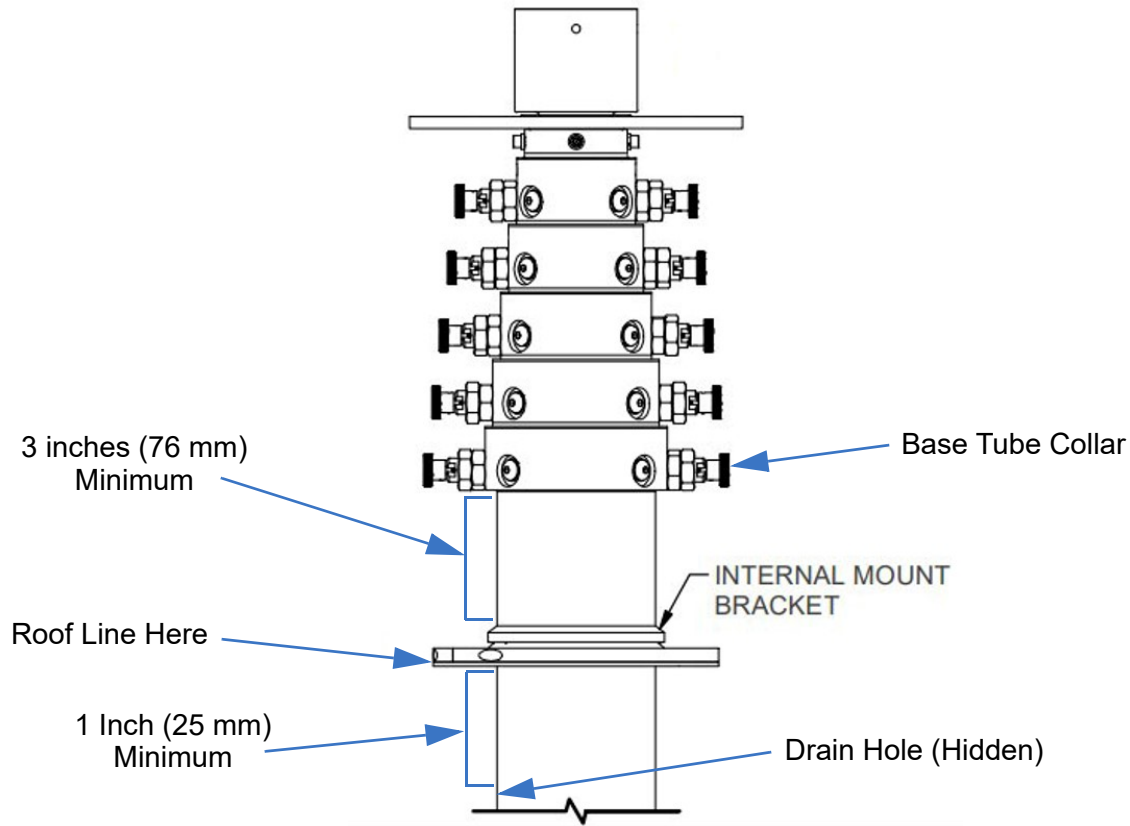

Figure 4-3 Roof Line Location (Locking Mast Shown) (Not to Scale)
- The mounting area must have sufficient room to mount the mast system. The roof area must be as flat as possible at the location of the mast. The roofline must lie between the drain hole and base tube collar. Mounting hardware must be at least 1 inch (25 mm) above the drain hole, and at least 3 inches (76 mm) below the base tube collar (Figure 4-3). The exact dimensions of the mast system will vary based on the components included.